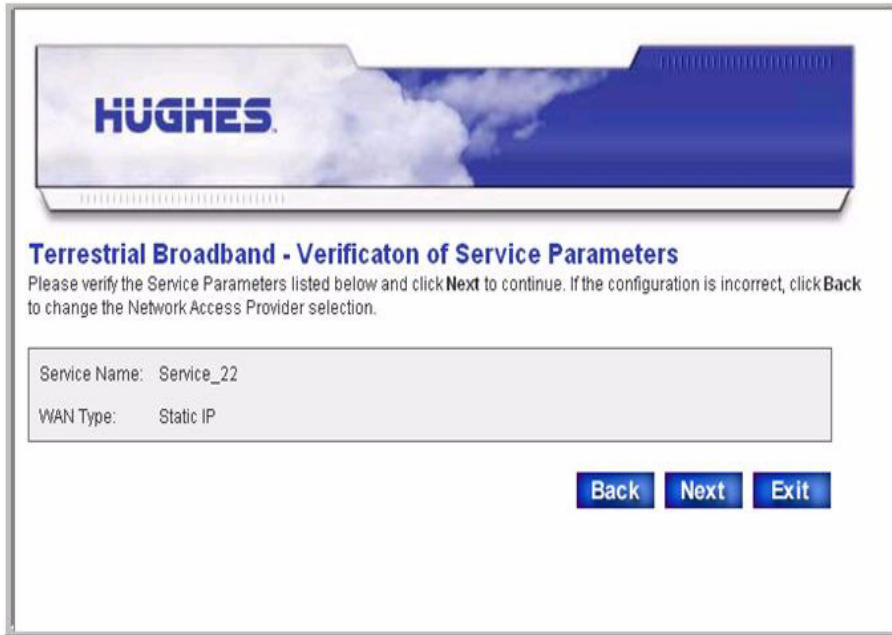

Figure 18: Auto selection - T-1 NAP verification screen
7. The Verification of Service Parameters screen displays as shown in Figure 18.